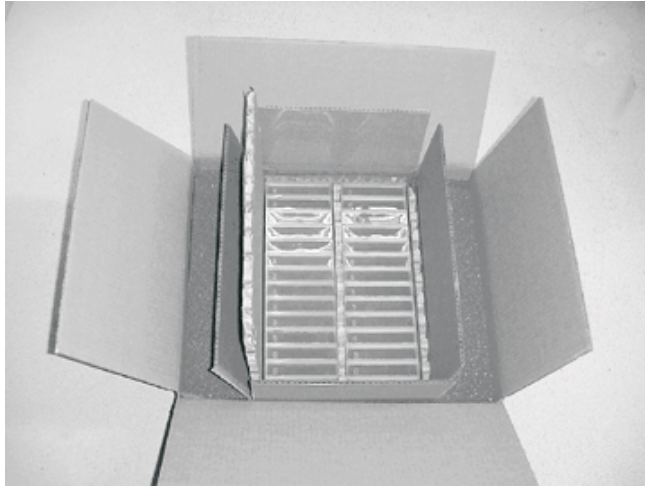

Figure 118. Double-boxing tape cartridges for shipping
- Double-box the cartridge (place it inside a box, then place that box inside the shipping box) and add padding between the two boxes (see Figure 118).